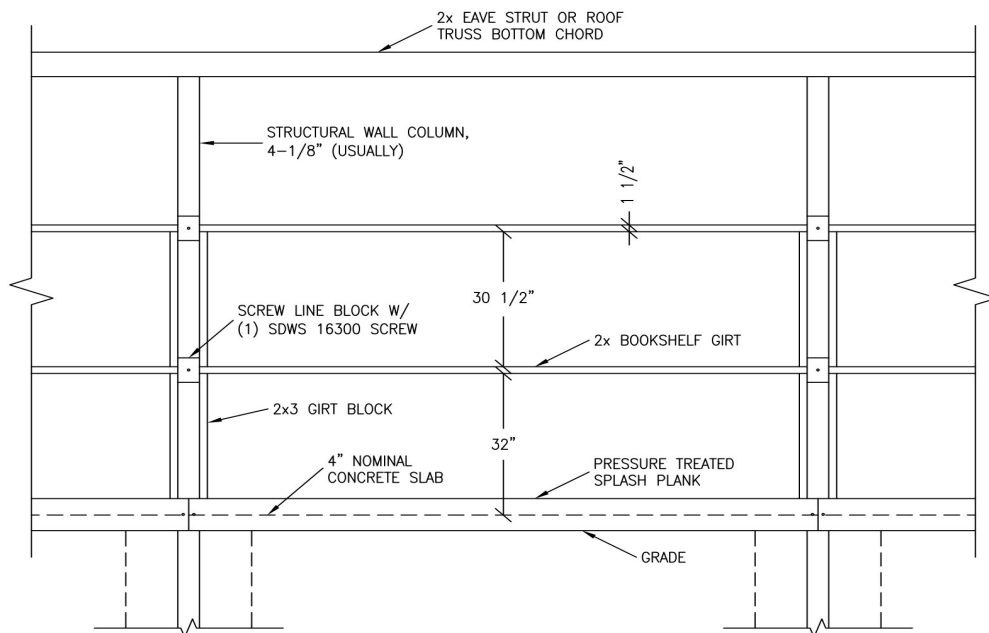

Figure 19-4: 2x Blocking With Bookshelf Girts
Screw 2x blocking material to column exterior faces with (1) SDWS16300 in line with bookshelf girts. This is a good way to use up cutoffs from bookshelf girts. **See Figure 19-4**